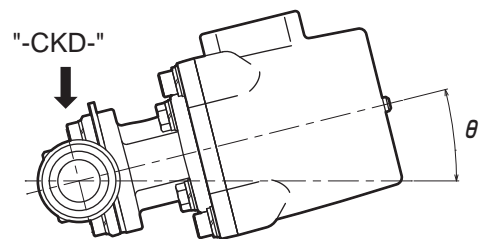

Fig. 1 Valve tilt angle
- For horizontal piping, liquid accumulation in the valve can be minimized by tilting the valve and piping. Pipe so that the "-CKD-" mark stamped on the body piping section is directly above. (Refer to Table 1, Fig. 1)